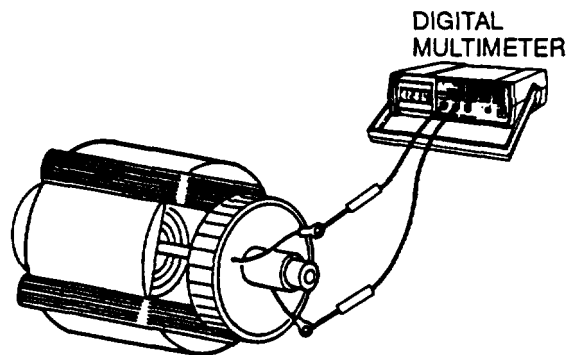

FIGURE 4-20. Testing Rotor for an Open or Shorted Windings.
- f. Connect multimeter between F1+ and F2- leads (FIGURE 4-20). Resistance reading should be as shown in TABLE 4-1.